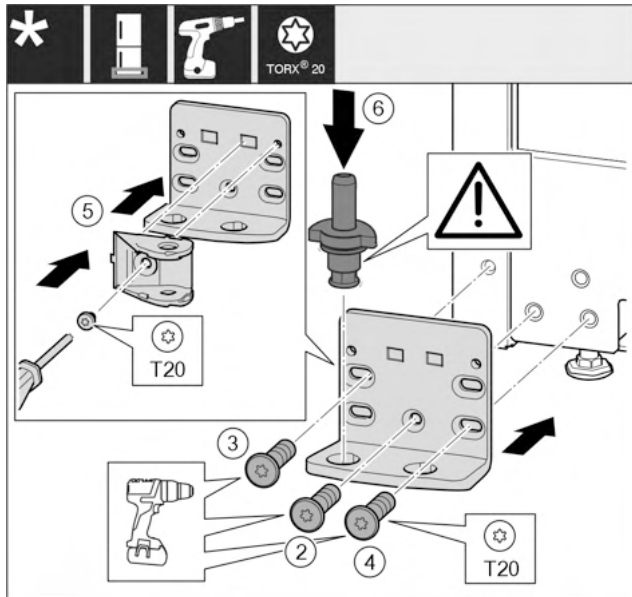

Fig. 35
- ▶ Attach the swap bearing block onto the other side and screw it on using a screwdriver. Start with the screw Fig. 35 (2) at the bottom center.
- ▶ Tighten screw Fig. 35 (3) and screw Fig. 35 (4).
- ▶ Turn the closing damper connection Fig. 35 (5) by 180°. On the other side of the swap bearing block, screw it on with the screwdriver.
- ▶ Insert the bearing pin Fig. 35 (6) completely. In the process, make sure that the latching cam shows towards the rear.